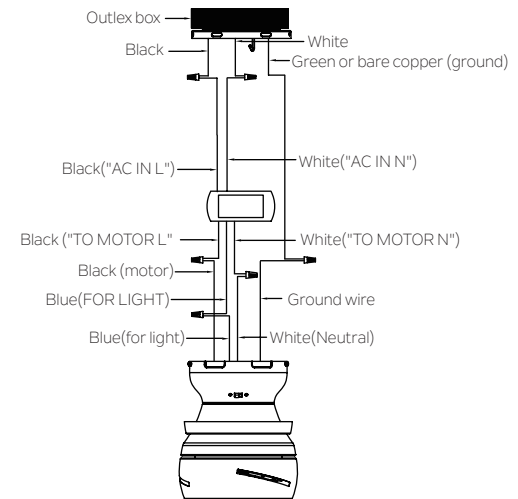

Fig. 10
Step 2. Motor to Receiver Electrical Connections: Connect the BLACK wire from the fan to BLACK wire marked "TO MOTOR L" from the receiver. Connect the WHITE wire from the fan to the WHITE wire marked "TO MOTOR N" from the receiver. Connect the BLUE wire from the fan to the BLUE wire marked "FOR LIGHT" from the receiver. Secure all the wire connections with the plastic wire connectors provided. (Fig. 10)
Step 3. Remote Receiver to Outlet Box Electrical Connections: Connect the BLACK (hot) wire from the ceiling to the BLACK wire marked "AC IN L" from the receiver. Connect the WHITE (Neutral) wire from the ceiling to the WHITE wire marked "AC IN N" from the receiver. Secure all the wire connections with the plastic wire connectors provided. (Fig. 10)